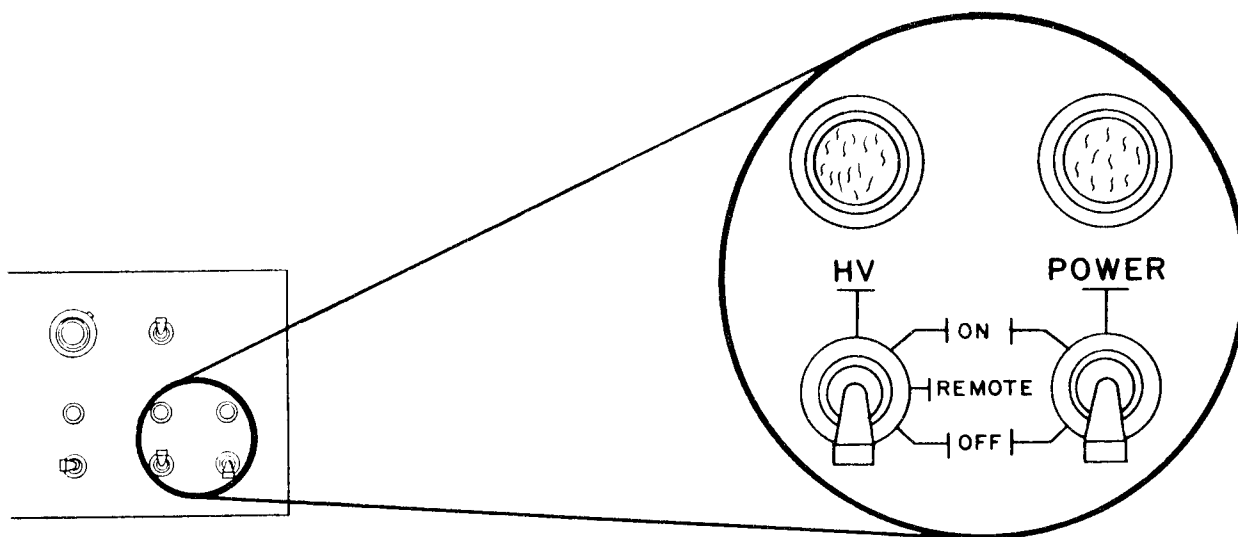

Figure 59. POWER and HV Switches to OFF
- a. Ensure the POWER switch and the HV switch are set to OFF (see Figure 59).